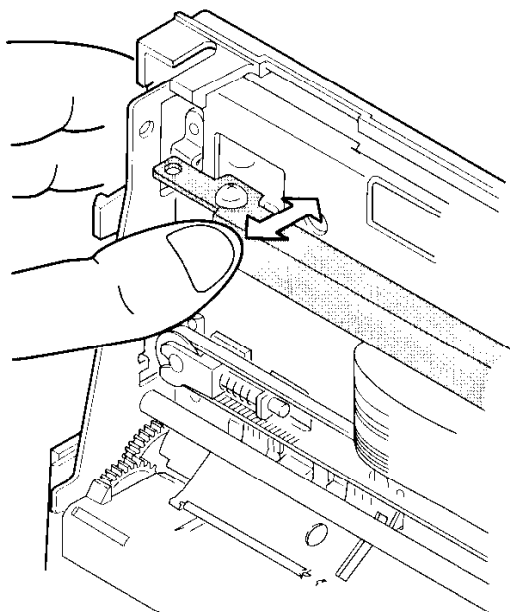

Figure 4-5 Head Gap Adjustment (2)
- 6) Lightly push the carriage guide frame once or twice as shown in Figure 4-5 to make sure it moves in the direction of the arrows. Then lightly tighten one of the screws. The paper thickness adjustment lever must be at the plain paper position when you do this.
- 10) Lightly push the carriage guide frame once or twice as shown in Figure 4-5 to make sure it moves in the direction of the arrows. Then lightly tighten the screws that are still loose. (The paper thickness lever must be at the plain paper position when you do this and subsequent tightenings.)